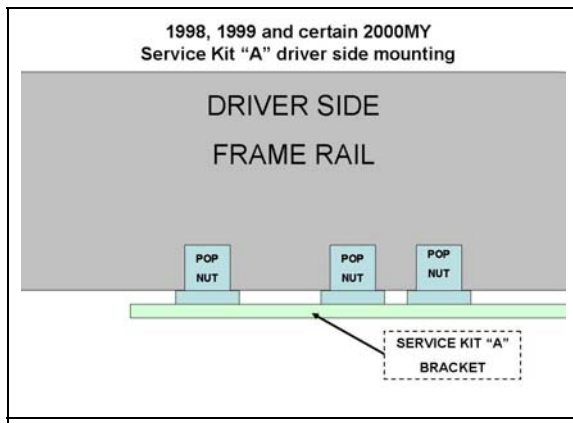

Figure 26
IMPORTANT: For details on installation variations depending on model years, please see Figures 26, 27, and 28 provided on step 19.
19. Install the driver side reinforcement bracket using the new hardware provided in the bracket kit. The required parts will vary depending on vehicle model year and frame design. Use Figures 26, 27 and 28 for reference to correctly install the driver side bracket.